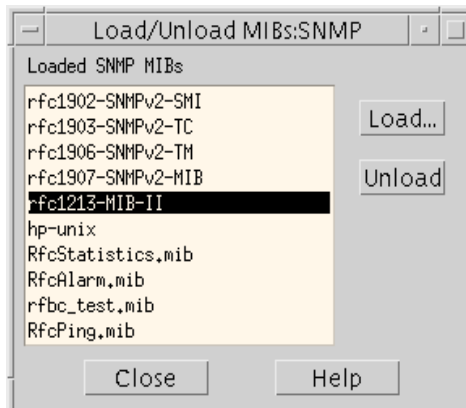

Figure 3-5: Load/Unload MIBs:SNMP Window
The Load/Unload MIBs:SNMP window appears (see Figure 3-5).
7. The system may issue a warning about duplicate Date and Time. Select the **Close button**. The system returns to the Load/Unload MIBs:SNMP window (see Figure 3-5).